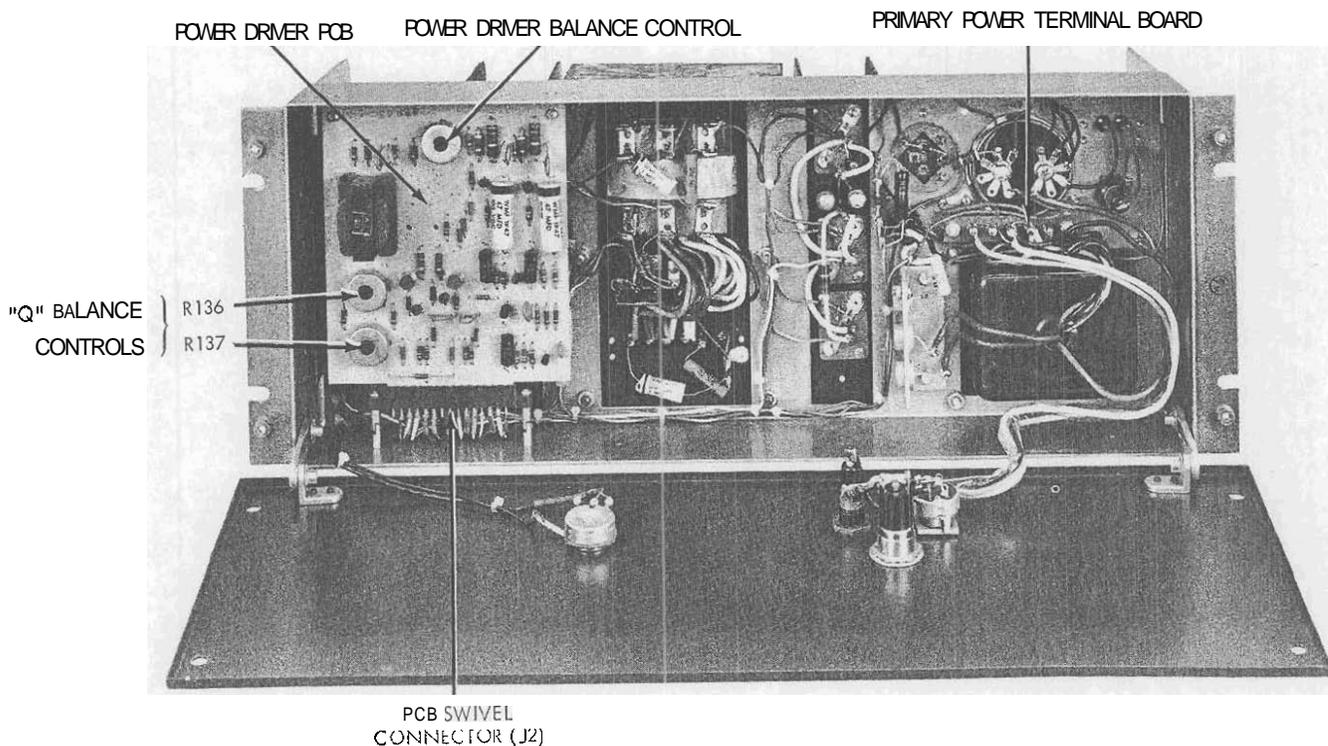

Figure 5. Front View With Hinged Panel Open
- Step 1. Remove four screws securing front panel. Open and lower panel as shown in Figure 5.
- Step 2. Locate terminal board TB3 above power transformer T1 (see Figure 5).
- Step 6. Adjust R116 on Power Driver PCB (see Figures 5 and 12) until minimum distortion is observed on distortion measuring instrument.
Output "Q" Balance Controls R136 and R137 on Power Driver PCB (see Figure 5) balance the bias current of power transistors Q1, Q2, Q3 and Q4. Inadequate adjustment of these controls may result in distortion and excessive current drain from one or more power transistors. If adjustment is indicated (such as replacement of one or more power transistors), use the following recommended procedure:
- Step 3. Turn Output "Q" Balance Controls R136 and R137 fully clockwise (see Figure 5).
Step 1. Remove four screws securing front panel. Open and lower panel for access to PCB (see Figure 5).